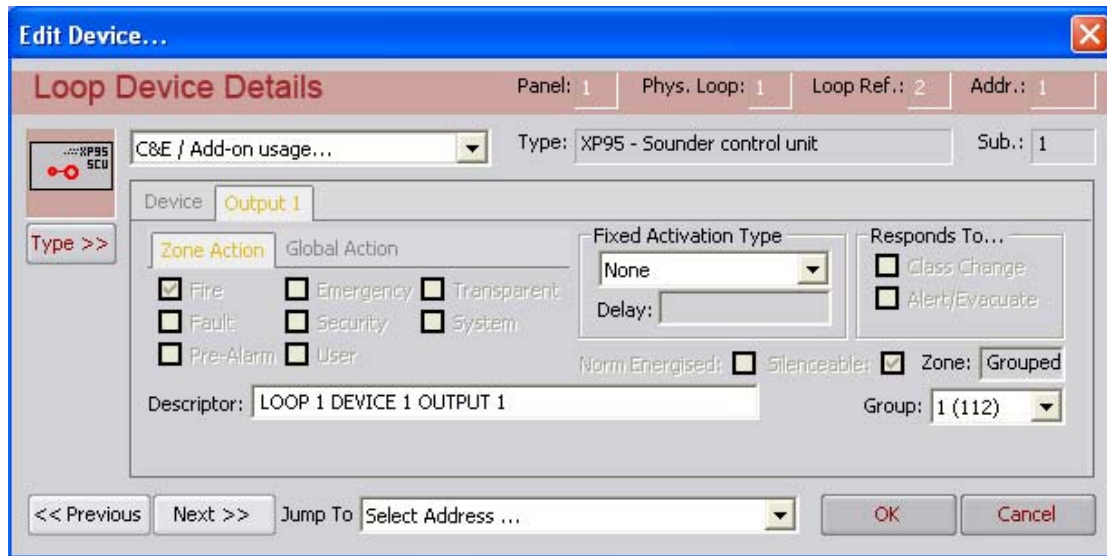

Figure 4: Edit Device Screen Note: Group 1 (112)
- Sounder Groups are assigned to the individual sounder at device output level (Figure 4)